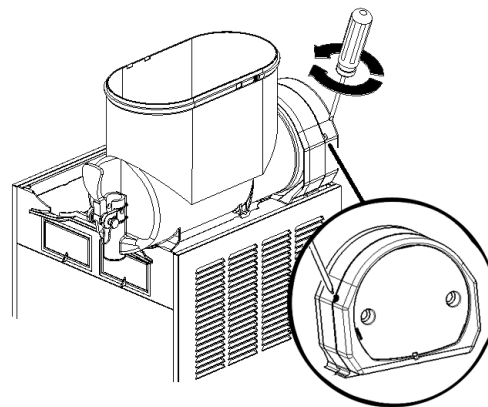

figure 5
**1 Granita viscosity adjustment:** proper Granita viscosity is factory preset. To change the viscosity, if needed, use a standard screwdriver to turn the adjustment screw located in the rear wall of each container as follows (see figure 5):